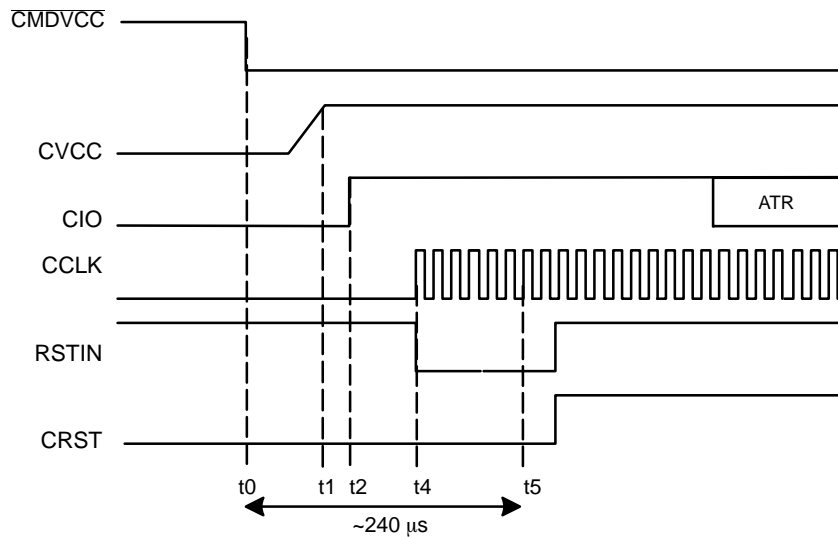

Figure 4. Activation Sequence – RSTIN Mode (RSTIN Starting High)
The clock can also be applied to the card using a **RSTIN mode** allowing controlling the clock starting by setting RSTIN Low (Figure 4). Before running the activation sequence, that is before setting Low $\overline{\text{CMDVCC}}$ RSTIN is set High. The following sequence is applied:
- Between t_2 (Figure 4) and $t_5 = 240 \mu\text{s}$, RSTIN is reset to LOW and CCLK will start precisely at this moment allowing a precise count of clock cycles before toggling CRST Low to High for ATR (Answer To Reset) request.